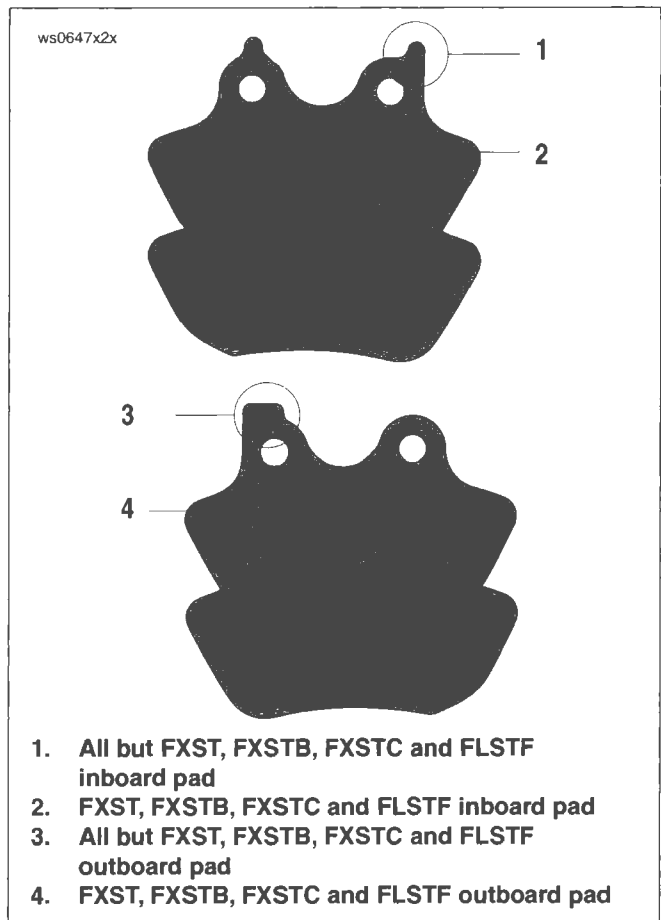

Figure 2-86. FXST, FXSTB and FXSTC Brake Pads
- See Figure 2-86. The rear brake pads on FXST, FXSTB, FXSTC and FLSTF models are different than the pads on other models.